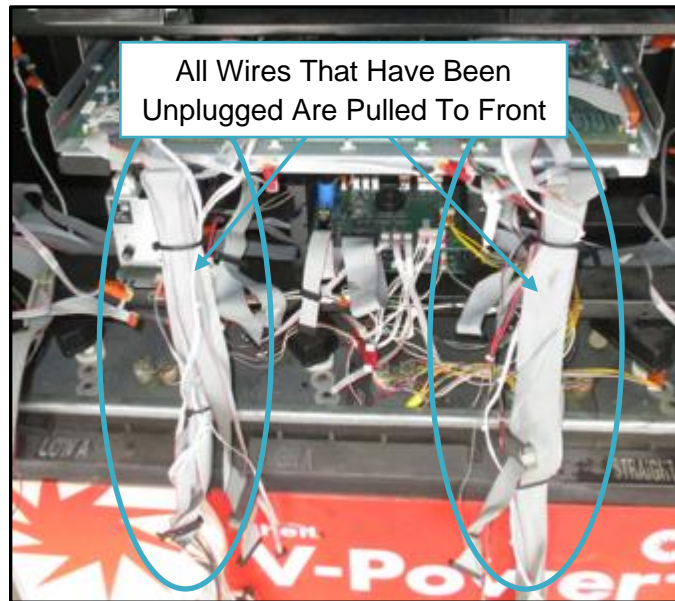

Fig. 1.17 – Pull all wire assemblies to front of dispenser
- 2) Pull all of the wires towards the A side of the dispenser and let them hang down to be sure that they do not get caught when removing the CRIND rack assembly. (Fig. 1.17)